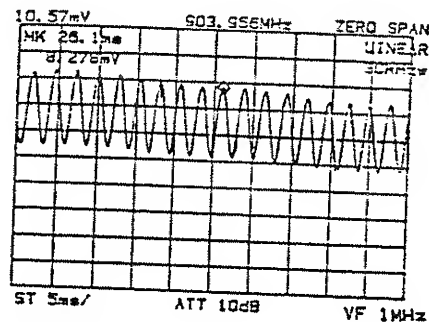

Figure 5-7 Reading the Emax
- ⑭ Read the marker level Emax (Figure 5-7).